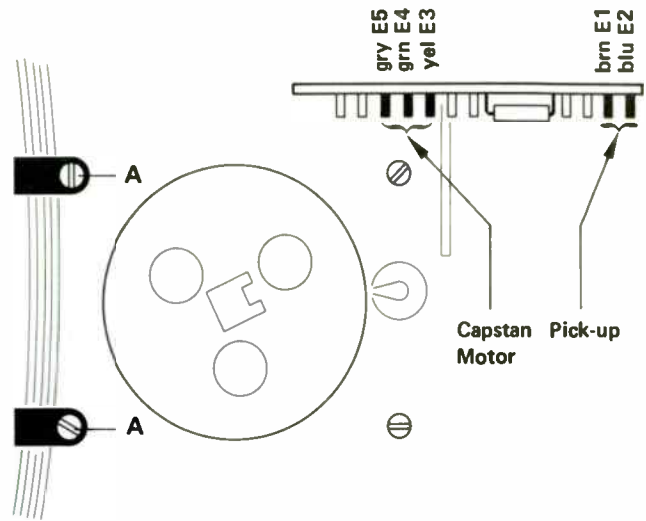

Fig. 3.7–9
- Unscrew motor fasteners B (fig. 3.7 – 10) on headblock. The other screws on headblock shall not be touched as they retain the headblock itself.